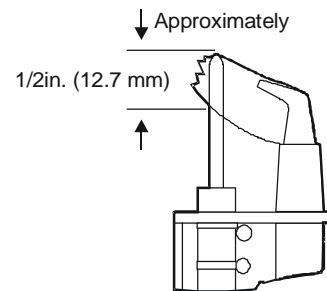

Figure 2: Flame Position
- A flame approximately 1/2 in. (12.7 mm) high must surround the thermocouple tip (Figure 2).